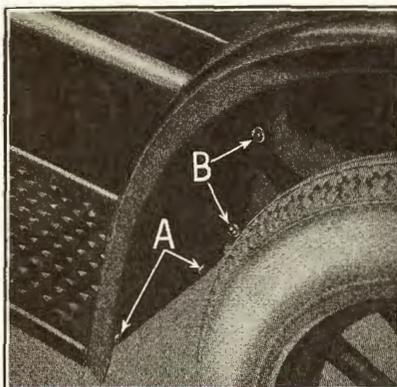

Fig. 539
1160 To remove the new design rear fender, run off nuts on the ends of the two rear fender to running board bolts (see "A" Fig. 539).
- 1163** Insert the two fender to running board bolts through fender and running board (see "A" Fig. 539). Place lockwashers over the ends of the bolts and run down the nuts. Do not tighten the nuts until all fender bolts and nuts are entered.
- 1164** Place flat washers over the ends of the two fender to dust shield bolts and insert bolts through fender and dust shield (see "B" Fig. 539). Place a flat washer, also a lockwasher over the ends of each of the two bolts. Start nuts on ends of bolts and draw them down tightly.
- 1169** Run off the nuts on the ends of the two rear fender to running board bolts (see "A" Fig. 539) and withdraw bolts.
- 1173** Insert the two rear fender to running board bolts (see "A" Fig. 539) through fender and running board. Place lockwashers over the ends of the bolts and run down the nuts but do not tighten until all bolts have been entered.
- 1181 Run off the nuts on the ends of the two rear fender to dust shield bolts (see "B" Fig. 539) and withdraw the bolts.